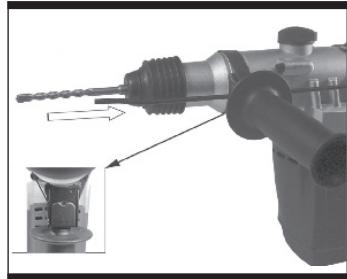

Fig 13
1. Rotate the handle anti-clockwise, insert depth gauge into the handle (see Fig13).